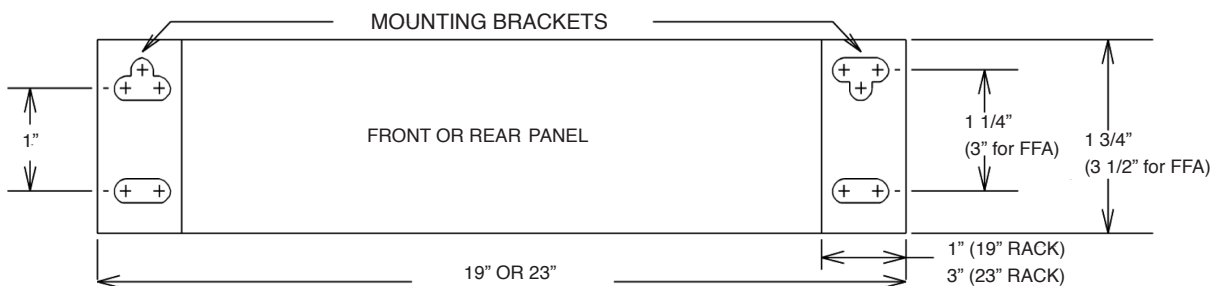

Figure 8 - Mounting Dimensions
1. Locate an unused rack position and mount the panel using the four, 12-24 thread-cutting screws, washers, and star washers provided. Figure 8 shows the hole locations.